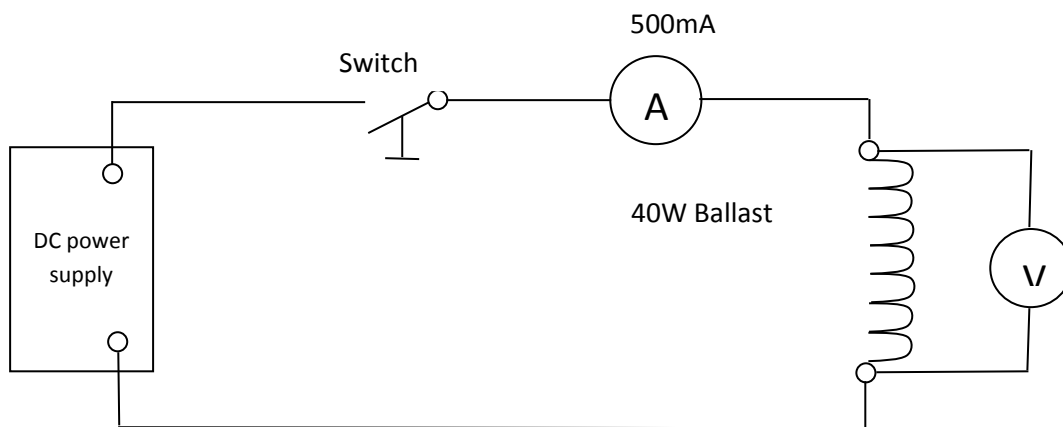

Figure 2
3. Connect the ballast to a **DC supply** as shown in the circuit diagram below in figure 2. Ensure the voltage of the **DC supply is set to Zero**.